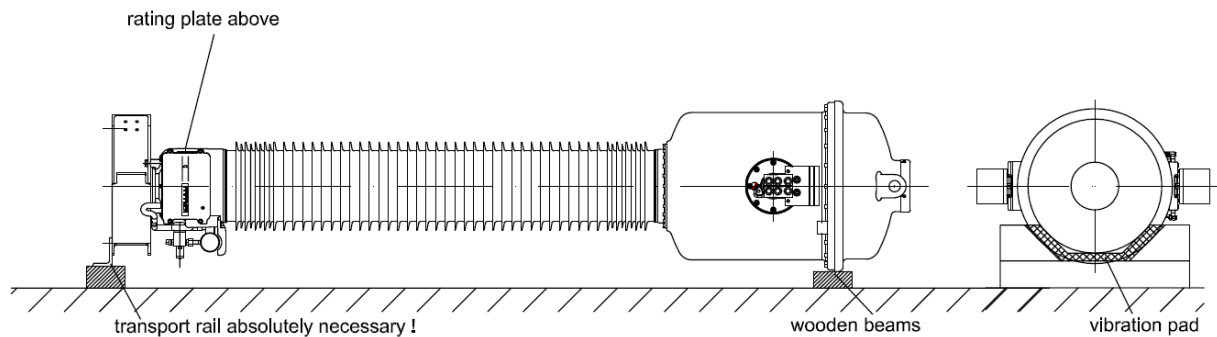

fig 2: Transport position
- Transportation in horizontal position. The terminal box is facing forward and is located to the side, the rating plate shows upwards and the density monitor is located upwards. (see Figure 2).
Put vibration pads between transformer and wooden wedges to protect the transformer against impacts (see Figure 2).